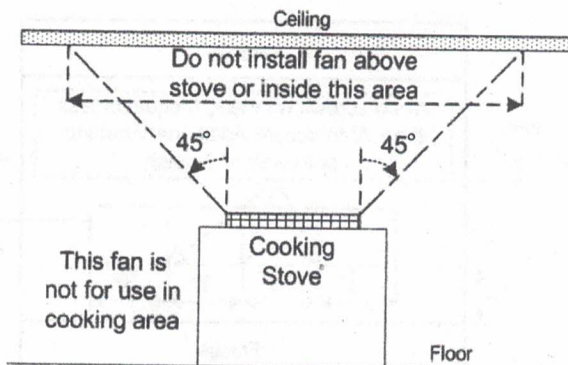

Figure 1
4. Do not use the fan in cooking area. (Figure 1)